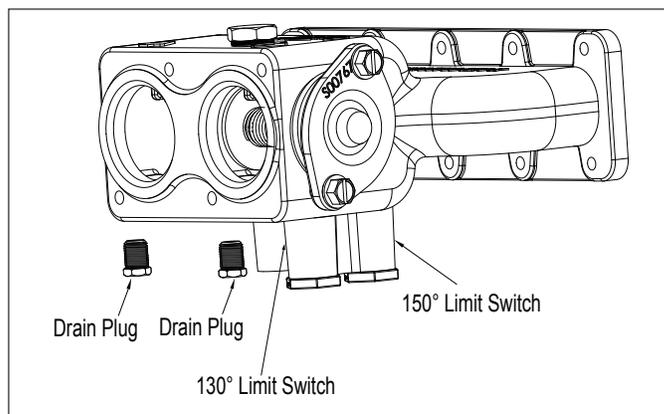

Figure 1. Draining the Heater
4. Drain the heater by removing the drain plugs on the inlet/outlet header. See Figure 1.